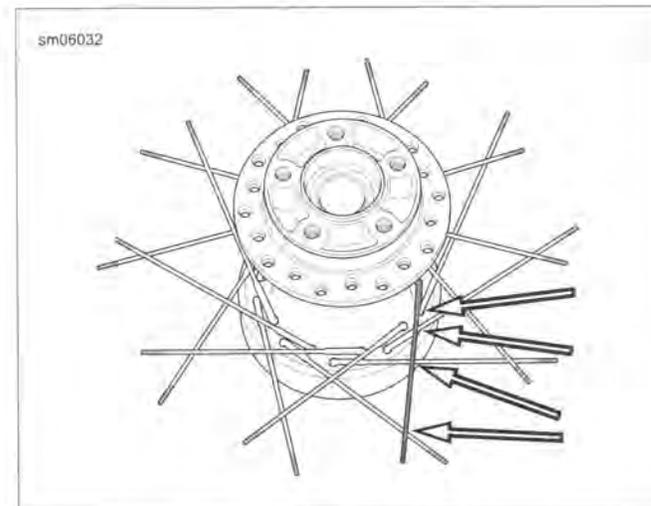

Figure 2-19. Arrange Spokes
4. See Figure 2-19. After spokes are installed, flip wheel hub over. Swing outer spokes counterclockwise and inner spokes clockwise as shown. Each inner spoke should cross four outer spokes, and each outer spoke should cross four inner spokes.